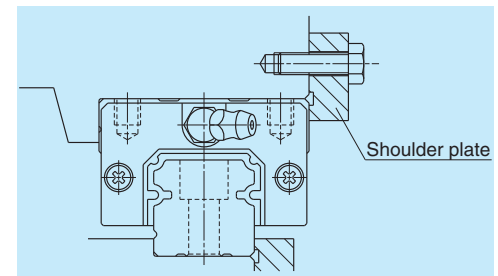

**Fig. 10.16**
- [3] Once the position of the straight edge is determined, use it as the reference. With a dial indicator, check parallelism with the rail, and adjust the rail if necessary. Then tighten the bolts. Ensure that the straight edge does not move while the bolts are being tightened. This procedure should be carried out starting from one end of the rail to the other end (**Fig. 10.16**).